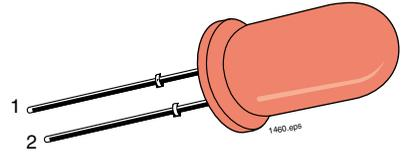

Figure 1.1 Red LED.
5. Select the red LED using **Figure 1.1** to aid in its identification. The red LED will emit red light when electrical current flows through it. Place the LED to the right side of your workspace.